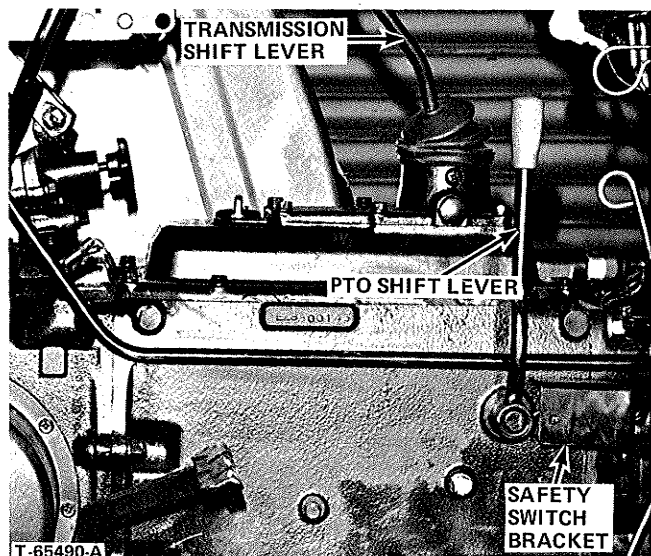

FIGURE 34B - PTO Shift Lever - R.H. Side Tractor
**P.T.O. SHIFT LEVER (Figure 34B)**
**NOTE:** If tractor engine fails to start with P.T.O. shift lever in the disengaged position it may become necessary to adjust the safety switch bracket forward, the safety switch bracket is located to the front of the P.T.O. shift lever on R.H. side of tractor transmission housing. - Figure 34B.